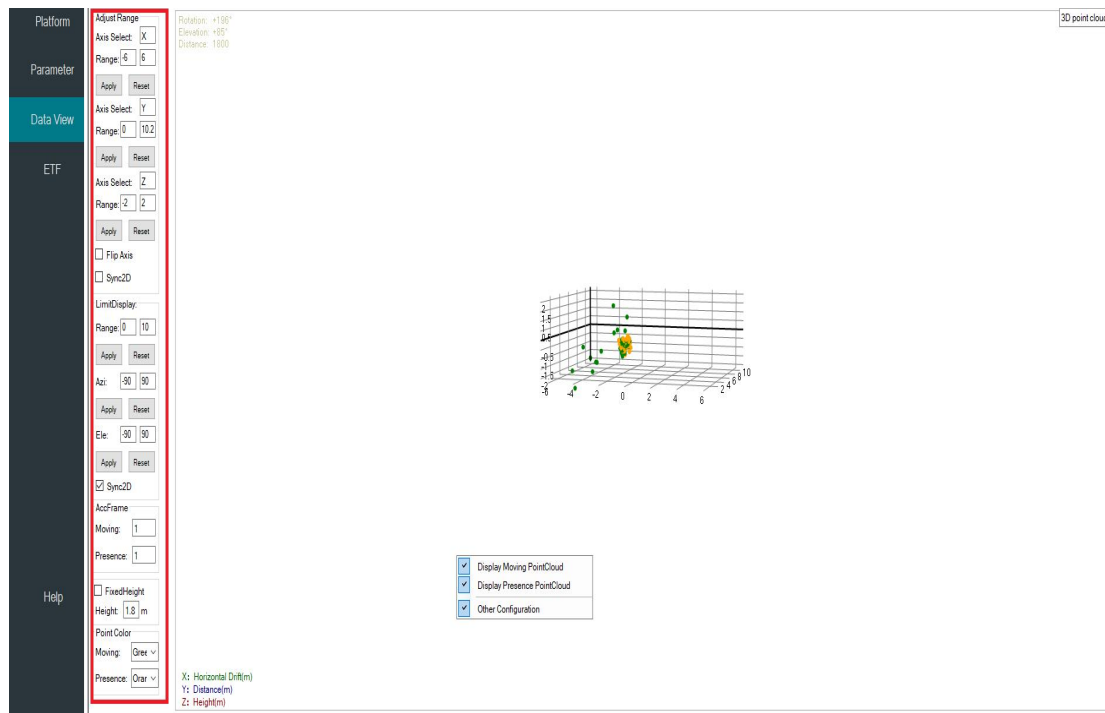
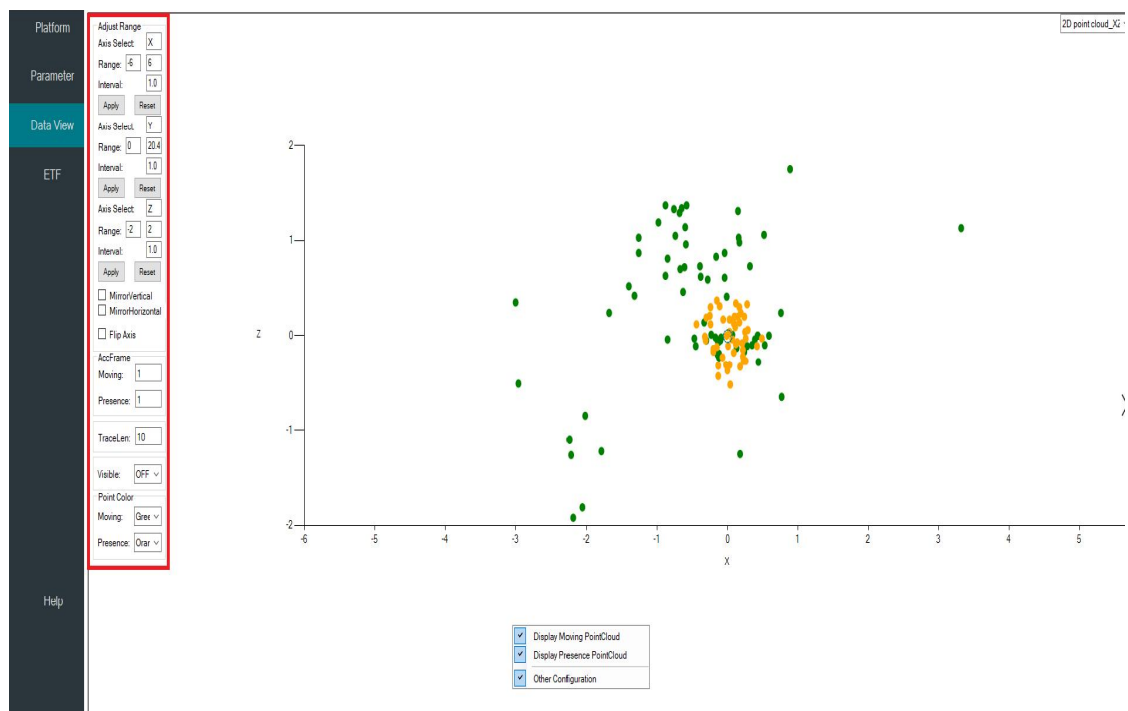

Figure 2-41 Configuration Page (3D Point Cloud)
Figure 2-42 Configuration Page (2D Point Cloud)
- 3、 As shown in Figure 2-41 and Figure 2-42, select Other Configuration Options to open the configuration panel. The panel provides coordinate-range adjustment (including axis inversion), display-range limits, accumulated-frame settings, point-cloud color selection, and other options.